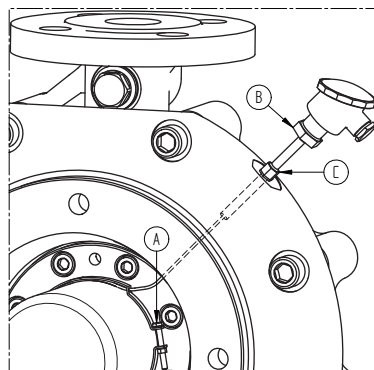

Figure 15: Inside connection of temperature sensor.
- 6 If the pump is equipped with a temperature sensor carefully remove the hose clamp by untightening screw A (figure 15). Then loosen first B then C and remove the connection head together with the connection tube, guiding at the same time the temperature sensor from the inside through the hole.
- 19 If the pump is equipped with a temperature sensor, guide the temperature sensor from the outside through the hole and mount the connection head and tube to the intermediate cover. Then guide the temperature sensor through the hole in the hose clamp and mount the hose clamp in the position as shown in figure 15.